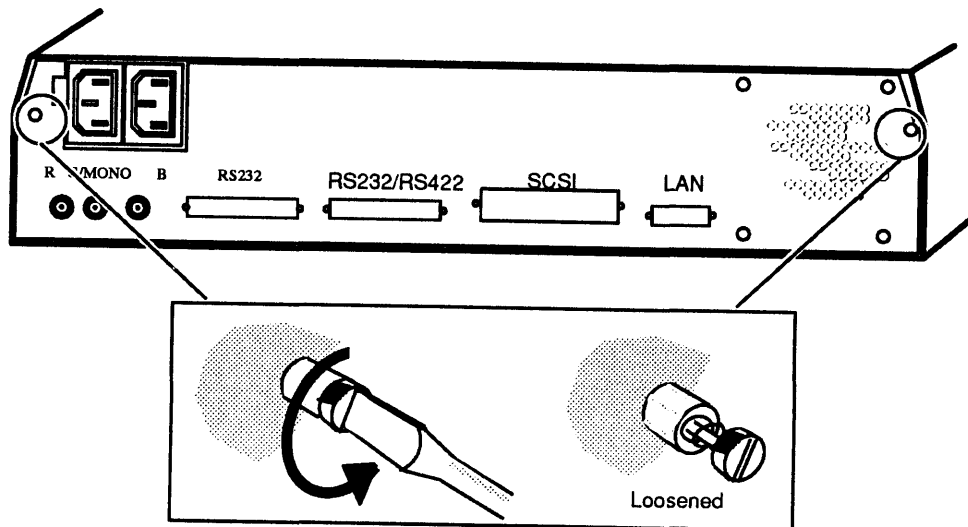

Figure 4-5 Loosening the Two Screws that Attach the Tray Assembly to the Housing
- Using the flat-blade screwdriver, loosen the two screws on the back panel, as shown in Figure 4-5.